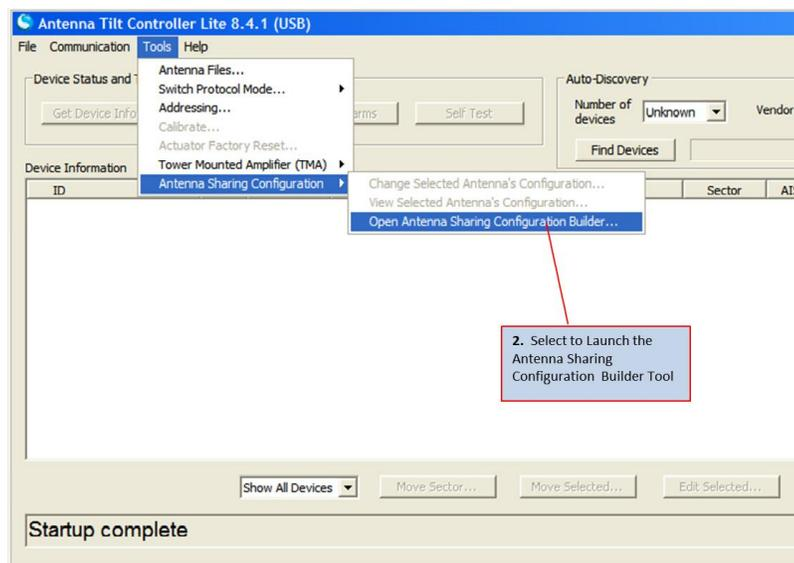
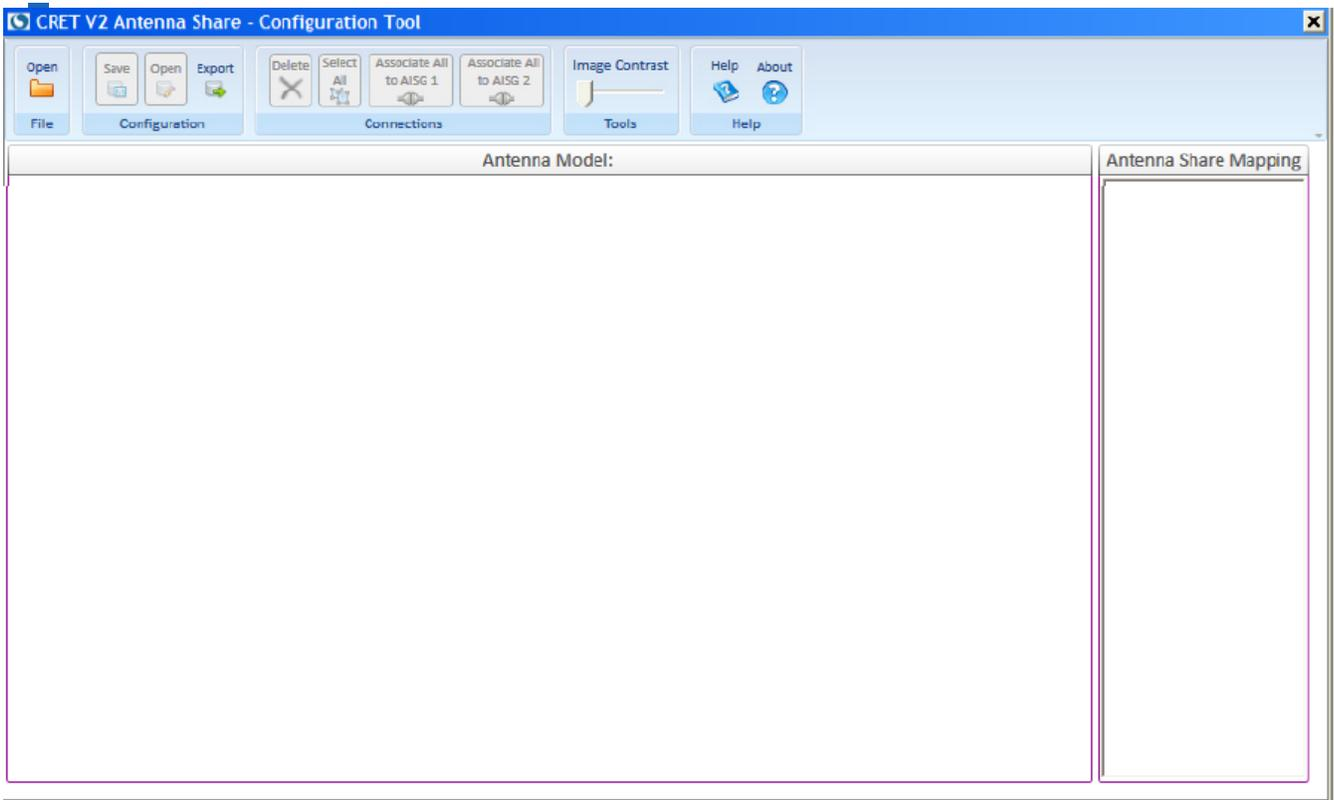

Figure 15-9. Launch Builder Tool with no connected devices
Figure 15-10. Builder Tool with no configuration
1. The Builder tool can also be launched through ATC Lite program without being connected to any devices. Launch the ATC Lite program, and then use the menu “Tools” → “Antenna Sharing Configuration” → “Open Antenna Sharing configuration Builder...” as shown in the Figure 15-9. This launches the Antenna Share Configuration Builder tool with startup view as shown in the Figure 15-10.